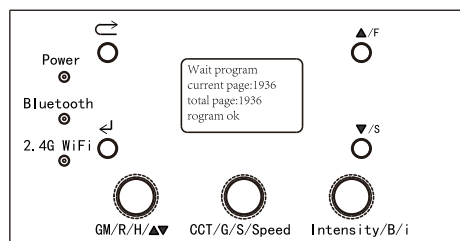

Fig.20 Firmware update completed
2. After connecting Bluetooth, click on “:” in the upper right corner of the APP, choose [Firmware Update]. When the light control panel LCD (Fig.11) shows OK (Fig.20), it is completed.